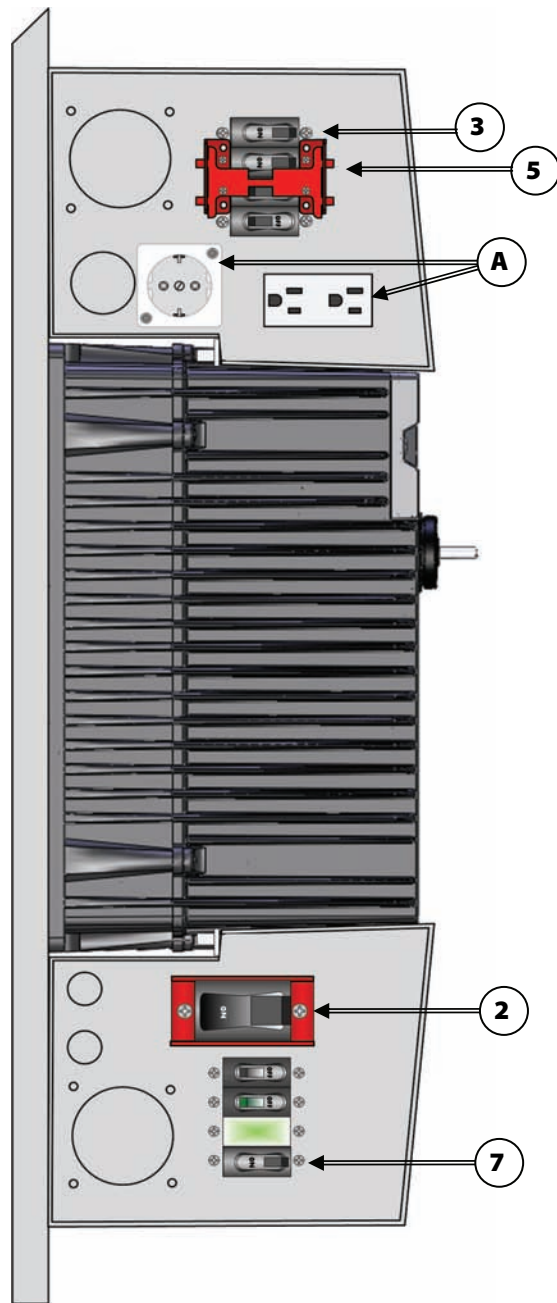

Figure 19 Energize Procedures
2. Close the DC Breakers from the battery bank to the inverter. (2) See Figure 19.
3. Close the AC Output Breakers. (3) See Figure 19.
5. Close the AC Input Breakers. (5) See Figure 19.
7. Close the PV input Breakers. (7) See Figure 19.